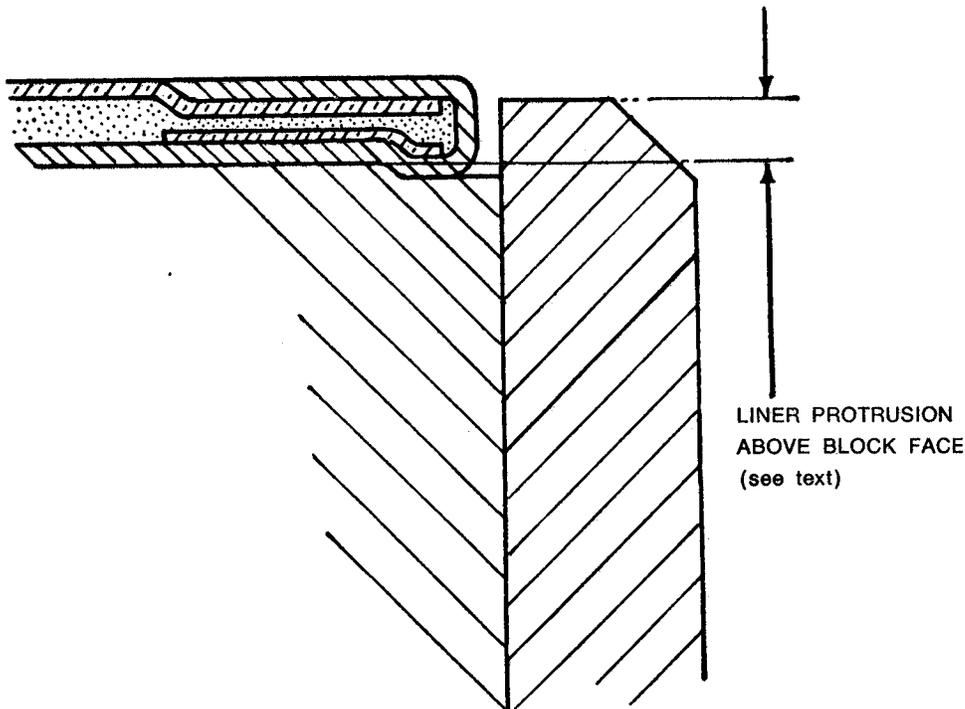

Fig. G.3.
4. Lubricate the outside diameter of the liners with clean oil and press them in. When inserting new liners, the load should be released several times during the first inch, so as to allow the liner to centralise itself in the parent bore. The liner should be pressed in until 0.030/0.035 in (0,76/0,89 mm) of the liner is protruding above the cylinder block face (Fig. G.3). Shim washers or a solid stop washer, 0.030/0.035 in (0,76/0,89 mm) thick should be used to give the correct protrusion.